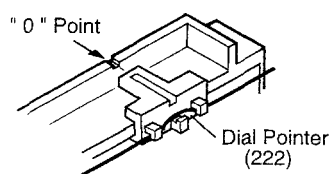
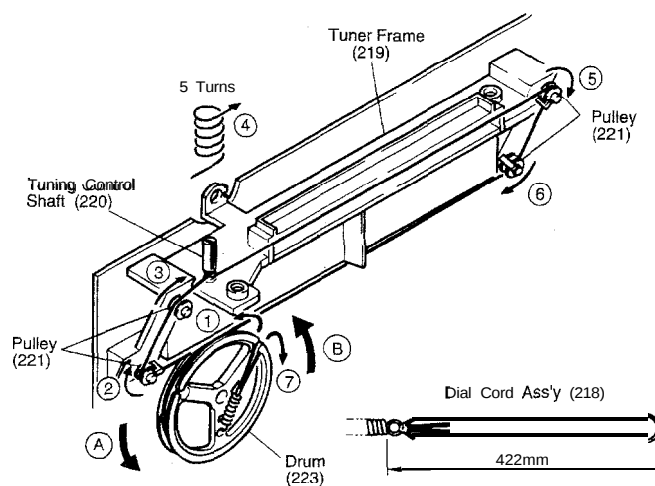

Figure 2-1
Figure 2-2
1. Turn the drum fully in the direction ① shown in Fig. 2-2 and stretch its cord over the parts in the numerical order.
2. Then turn the tuning control shaft fully in the direction ② shown in Fig. 2-2 and fix its pointer as shown in Fig. 2-1.